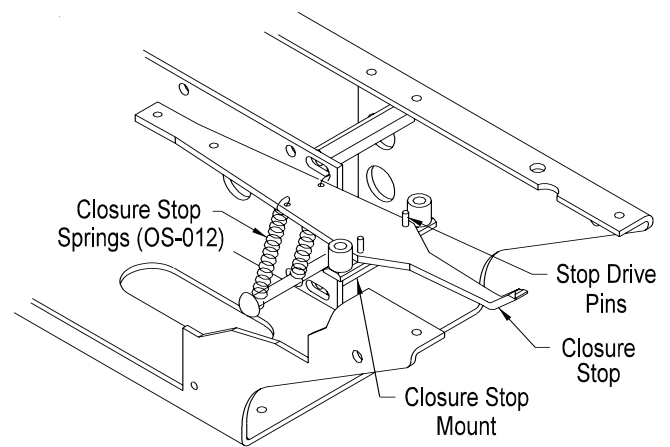

Figure 3.2
2. Disconnect the two gold colored closure stop springs (OS-012) from the lower spring anchor screw (Figure 3.2). When the springs are reattached be careful not to stretch them.